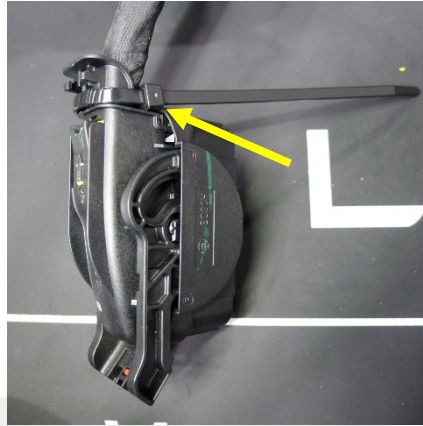

Figure 35
28. Fasten a small cable tie to the rear of connector X151 to secure the rear cover (Figure 35), and then trim the tie.